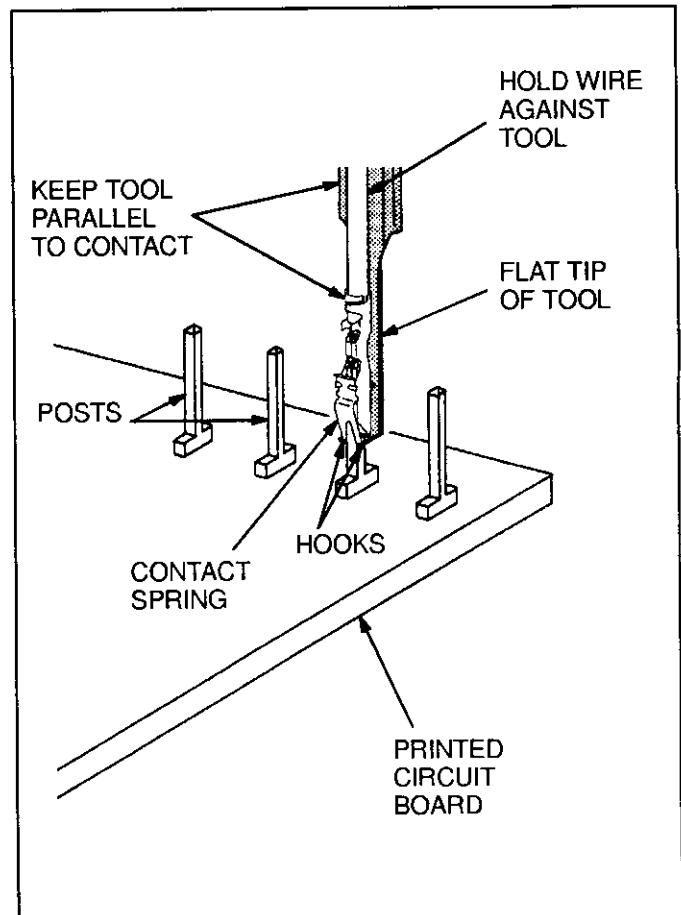

Fig. 3
4. EXTRACTING CONTACTS FROM POSTS (see Figure 3)